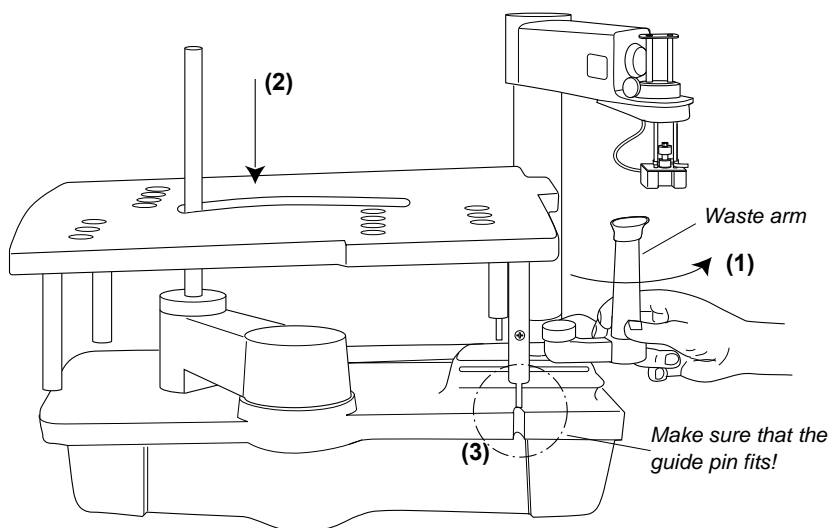

Figure 2-19. *Installing a prep mode rack*
Install a prep mode rack as shown in Figure 2-19.
- 3 Install the rack. Referring to Figure 2-19 on page 31.